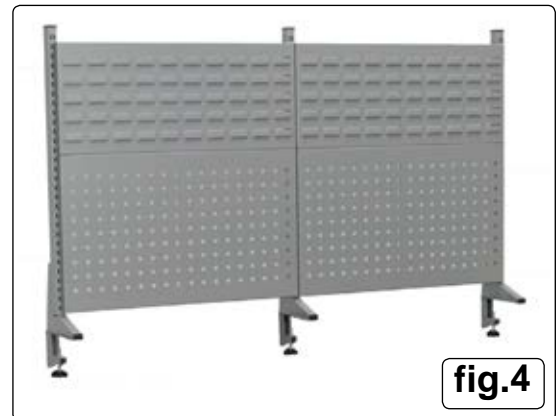

fig.4
6.1. Refer to fig.4
6.2. Take the three back panel supports and clamp them to the back edge of the bench ensuring that a clamping plate is inserted between the clamping knob spindle and the underside of the bench top as shown in fig.5. Adjust the positions of the uprights until the tool panels can be slotted into position followed by the bin panels above them as shown in fig.4. On the outer uprights the back panels should occupy the inner line of slots leaving one row of slots visible.